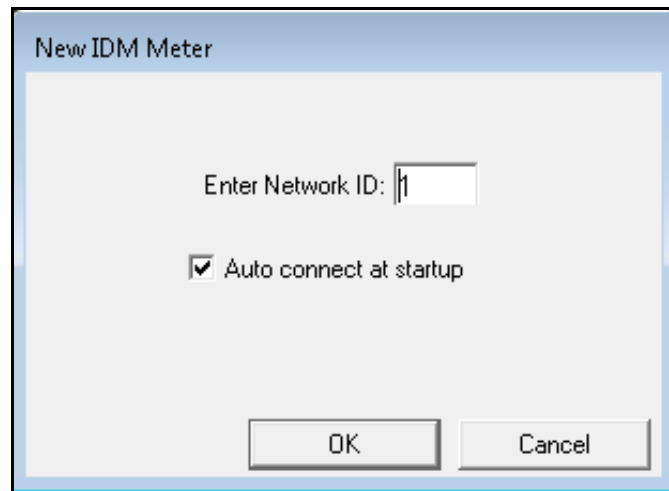

Figure 37: Add IDM New Meter
- After selecting the "New" and "Meter" options, the dialog box shown in Figure 37 below opens (If *Panalink* selected as protocol while "Adding a New Communication Port" on page 29, go to step 7 in page 34). Enter *Network ID* or *Node ID* and click [OK] to initialize New Meter.